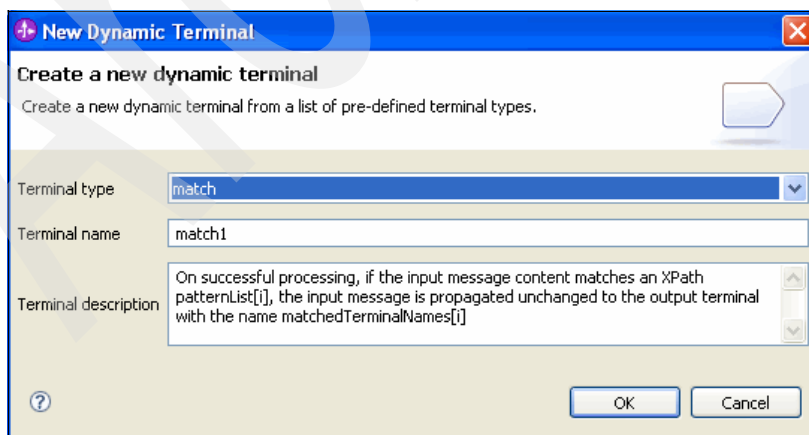

Figure 6-80 Creating a new output terminal
3. In the New Dynamic Terminal window (Figure 6-80), click **OK** to create a new output terminal.